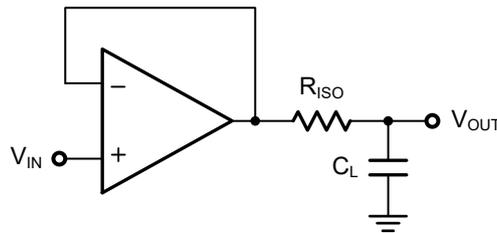
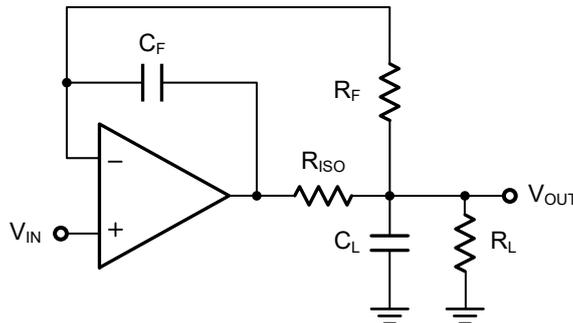

Figure 3-1 Indirectly Driving a Capacitive Load Using Isolation Resistor
Figure 3-2 Indirectly Driving a Capacitive Load with DC Accuracy
The SNA859X family is optimized for bandwidth and speed, not for driving capacitive loads. Output capacitance will create a pole in the amplifier's feedback path, leading to excessive peaking and potential oscillation. If dealing with load capacitance is a requirement of the application, the two strategies to consider are (1) using a small resistor in series with the amplifier's output and the load capacitance and (2) reducing the bandwidth of the amplifier's feedback loop by increasing the overall noise gain. Figure 3-1 shows a unity gain follower using the series resistor strategy. The resistor isolates the output from the capacitance and, more importantly, creates a zero in the feedback path that compensates for the pole created by the output capacitance.
The circuit in Figure 3-2 is an improvement to the one in Figure 3-1. R_F provides the DC accuracy by feed-forward the V_{IN} to R_L . C_F and R_{ISO} serve to counteract the loss of phase margin by feeding the high frequency component of the output signal back to the amplifier's inverting input, thereby preserving the phase margin in the overall feedback loop. Capacitive drive can be increased by increasing the value of C_F . This in turn will slow down the pulse response.